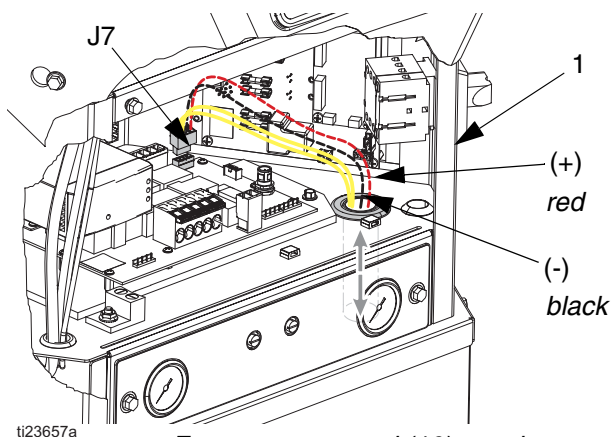

FIG. 60
3. Route fan wires with transformer wires into the electrical enclosure (1). Connect red and black fan wires to J7 connector. Reconnect J7 connector to AWB board. See FIG. 60.